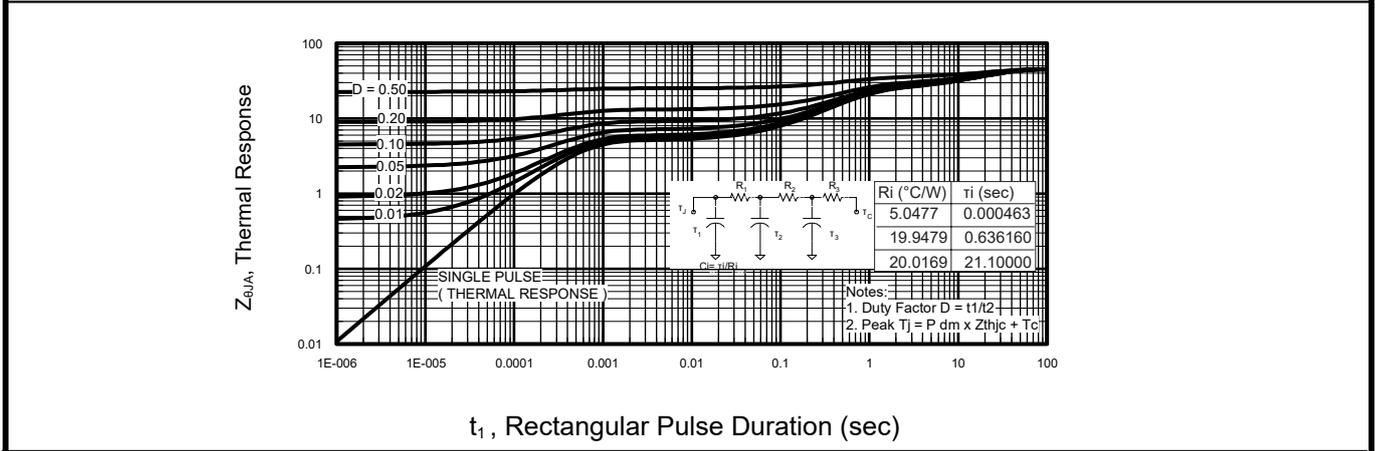
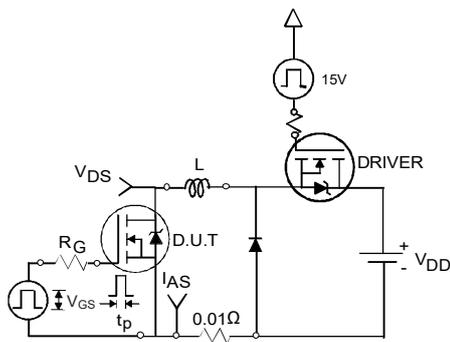

Figure 14: Maximum Effective Transient Thermal Impedance, Junction-to-Ambient
Figure 16a: Unclamped Inductive Test Circuit
- ① Repetitive rating; pulse width limited by max. junction temperature(See fig. 14).
- ② Limited by  $T_{Jmax}$ , starting  $T_J=25^\circ\text{C}$ ,  $L=2.8\text{mH}$ ,  $R_G=25\Omega$ ,  $I_{AS}=3.1\text{A}$ ,  $V_{GS}=10\text{V}$ . Part not recommended for use above this value.
- ③ Pulse width  $\leq 1\text{ms}$ ; duty cycle  $\leq 2\%$ .
- ④  $C_{oss}$  eff. is a fixed capacitance that gives the same charging time as  $C_{oss}$  while  $V_{DS}$  is rising from 0 to 80%  $V_{DSS}$ .
- ⑤ Limited by  $T_{Jmax}$ , see Fig.16a, 16b, 13, 15 for typical repetitive avalanche performance.
- ⑥ This value determined from sample failure population. 100% tested to this value in production.
- ⑦ When mounted on 1 inch square copper board.
- ⑧ When mounted on FR-4 board using minimum recommended footprint.